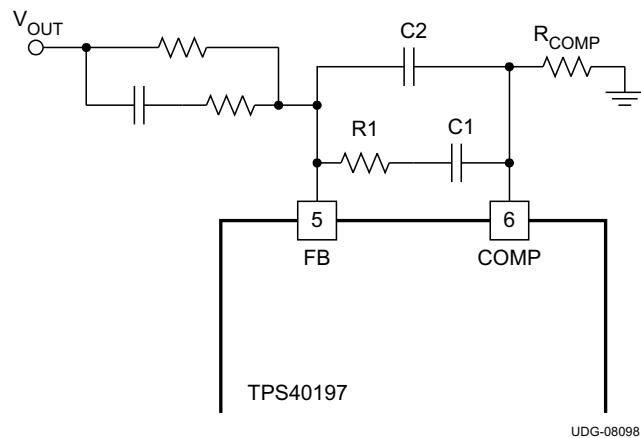

Figure 16. Short Circuit Threshold Feedback Network
- $R1$ and $C1$ are the values of the components in Figure 16 (1)